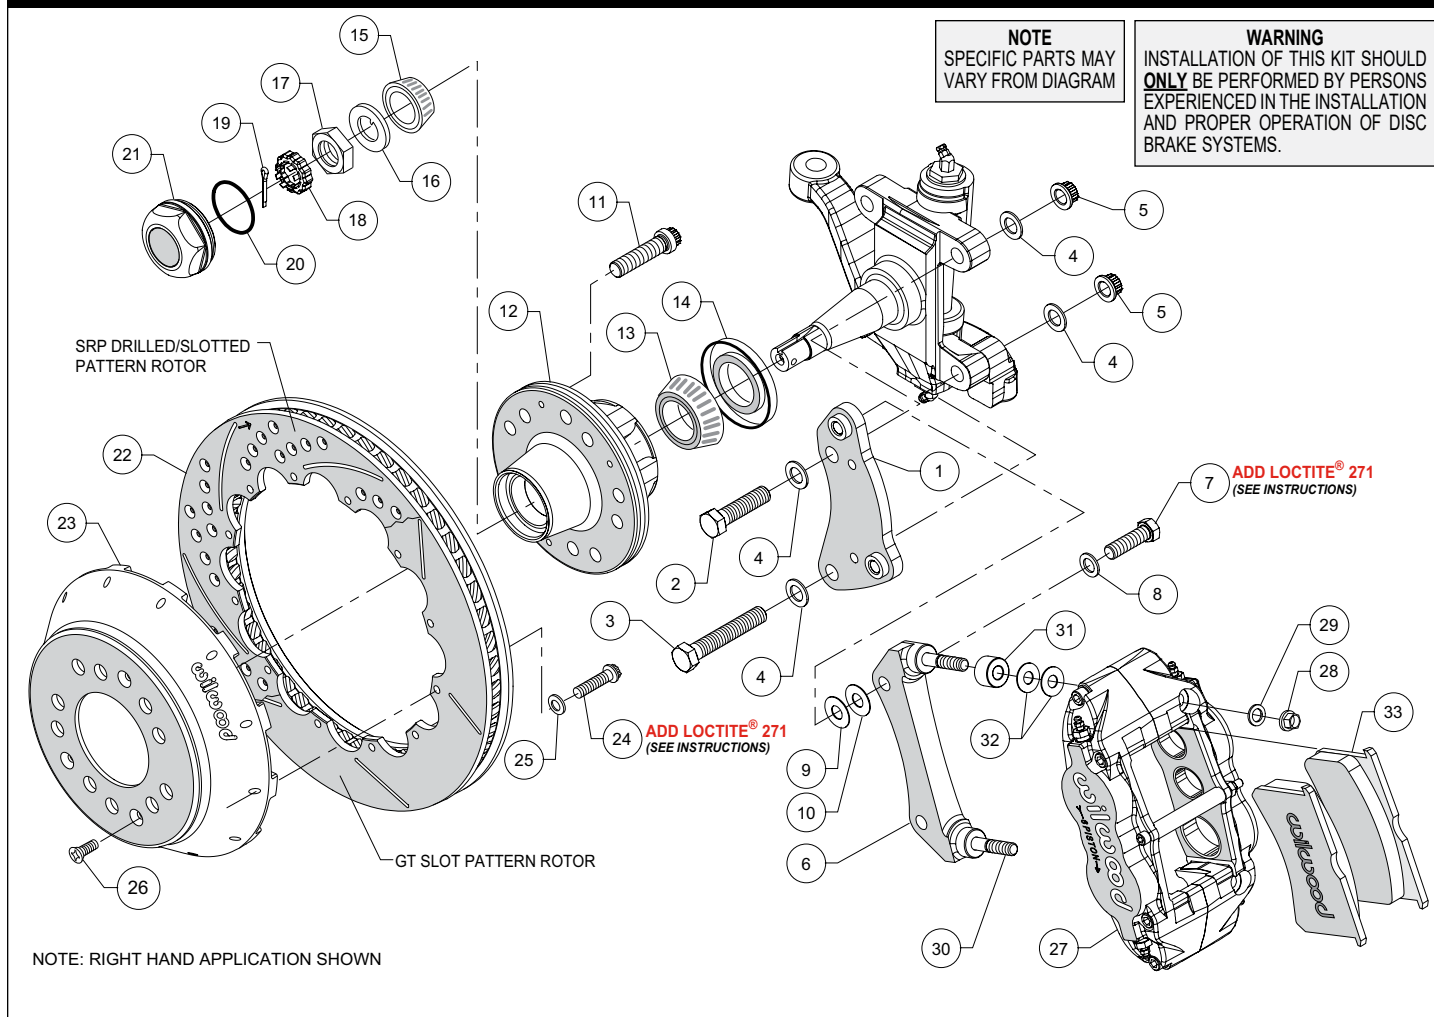

Figure 1. Typical Installation Configuration
NOTE: Numbers in parenthesis refer to the parts list and Figure 1 on the preceding pages.
- Orient the spindle bracket (1) as shown in Figure 1 and Photo 1, and install using bolts (2 and 3), washers (4) and nuts (5). Temporarily tighten the mounting bolts. Ensure that the flanged heads of the clinch nuts in the bracket are facing outboard, Photo 1. **NOTE:** The bracket must fit squarely against the mount bosses on the upright. Inspect for interference from casting irregularities, machining ridges, burrs, etc. Torque lock nuts (5) to 65 ft-lb.
- The caliper mount radial bracket (6) should initially be installed with clean, dry threads on the mounting bolts. Orient the bracket as shown in Figure 1, and Photo 2. Install onto the spindle bracket using bolts (7), and washers (8). Initially place one .030 thick shims (9) on each bolt between the radial and spindle brackets, Figure 1. Temporarily tighten the mounting bolts. Later, after the caliper alignment has been checked, the mount bolts will be secured using red Loctite® 271.
- Install wheel studs (11) into the hub (12), Photo 3. Torque to 77 ft-lb. **NOTE:** There are two five lug patterns in the hub (5 x 4.50 and 5 x 4.75). Ensure the correct hub stud pattern is being used to fit the wheel application.
- Pack the large inner bearing cone (13) with high temperature disc brake bearing grease (available from your local auto parts store) and install into the backside of the hub (12), Photo 4.
- Install the grease seal (14) by pressing into the backside of the hub (12), flush with the end of the hub, Photo 5.
- Pack the small outer bearing cone (15) with high temperature disc brake bearing grease and install into the front side of the hub (12), Photo 6. Slide the hub assembly onto the spindle. Secure using spindle washer (16) and spindle nut (17). Adjust bearings per OEM specifications. Install spindle nut retainer (18) and cotter pin (19), Photo 7.
- Screw dust cap (21) into hub (12), Photo 8. Friction created by the o-ring (20) on the dust cap keeps it from unscrewing. **NOTE:** The O.D. of the existing OEM spindle washer may be larger than the I.D. of the dust cap not allowing it to seat against the hub face. Therefore, use the spindle washer (16) supplied with the kit instead of the OEM washer.
- Orient the rotor (22) and the hat (23) as shown in Figure 1 and Photo 9. Attach rotor to hat using bolts (24) and washers (25). Apply red *Loctite*® 271 to the bolt threads and torque to 155 in-lb using a criss-cross pattern. For an added measure of security, the bolts may be safety wired using standard 0.032 inch diameter stainless steel safety wire as shown in Figure 3. Refer to Wilwood's data sheet DS-386 (available at www.wilwood.com/Pdf/DataSheets/ds386.pdf) for complete safety wire installation instructions.
- Slide the hat/rotor assembly (23/22) onto the hub (12) taking care to align the small countersunk holes in the hat with the small threaded holes in the hub, Photo 10. **NOTE:** The hat must fit flush against the hub face or excessive rotor run out may result. Install three flat head screws (26) through the small holes in the hat, and torque to 85 in-lb.
- NOTE:** This kit contains distinct right and left hand calipers that must be mounted in a specific direction, as described below. Initially place one spacer (31) and two .035" thick shims (32) on each stud (30) between the caliper and the bracket, as shown in Figure 1 and Photo 11. Mount the caliper (27) onto the bracket (6) using lock nuts (28) and washers (29), Figure 1. Ensure that the caliper is mounted so the largest pistons are at the rotor exit end of the caliper, in relation to the direction of rotor rotation. Temporarily tighten the lock nuts and view the rotor through the top opening of the caliper. The rotor should be centered in the caliper, Photo 12. If not, adjust by adding or subtracting shims (9 and/or 10) between the spindle bracket (1) and the caliper mount bracket (6). Always use the same amount of shims on each of the two mounting bolts (7). Once the caliper alignment is correct,